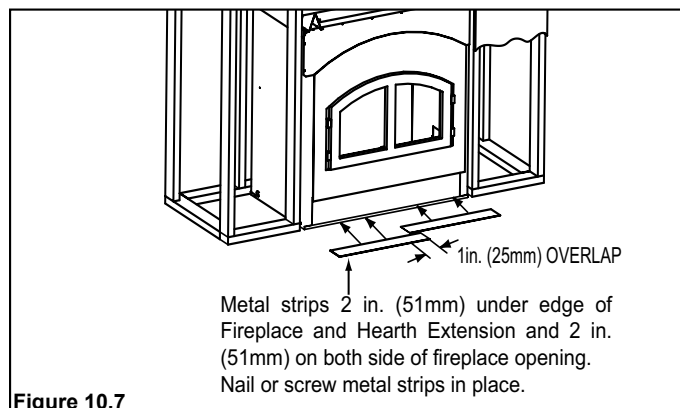

Figure 10.7
1. Secure the fireplace to the floor or wall framing studs at a minimum of two attachment points to prevent further movement of the fireplace. The same holes and L brackets that attached the fireplace to the pallet may be used to secure the fireplace to the sub flooring by using a minimum of two 1/4 in. x 2 in. lag bolts or equivalent. Refer to Figure 10.7 and install the two metal hearth strips at this time.